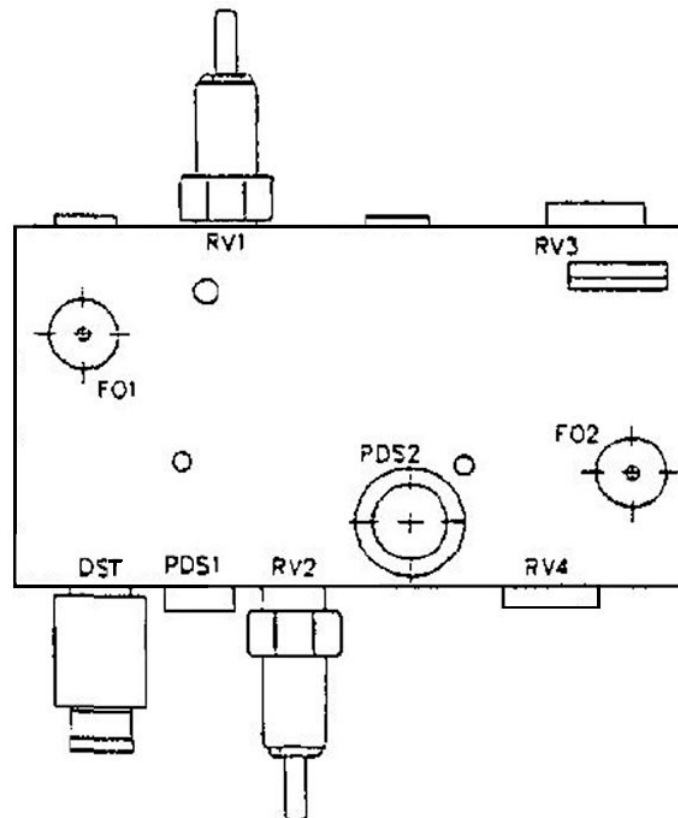

Figure 2-35. Relief valve adjustment.
1. To adjust the boom function pressure, install a 5,000 psi gauge at the "F02" test port (fig. 2-35) on the Parker 6 mid-inlet assembly.